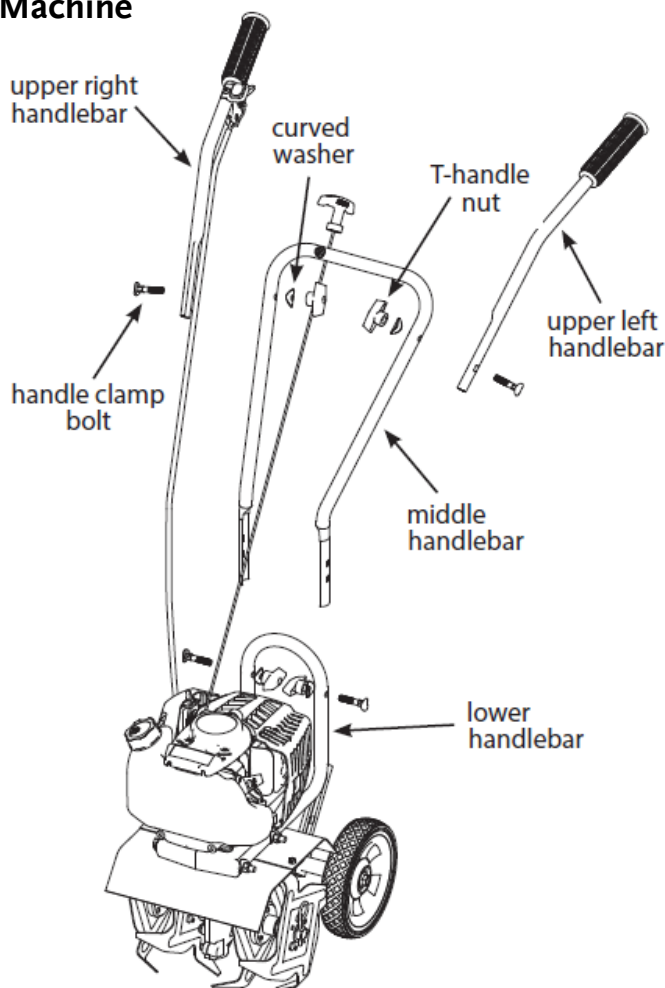

Figure 2
4. Using two T-Handle Nuts, two Handle Clamp Bolts and two Curved Washers, assemble the Middle Handlebar to the Lower Handlebar already attached to the machine (**Figure 2**).
5. Attach the Upper Right and Left Handlebars to the Middle Handlebar using the remaining two T-Handle Nuts, two Handle Clamp Bolts, and two Curved Washers (**Figure 2** on page 8). DO NOT over tighten the T-Handle Nuts.